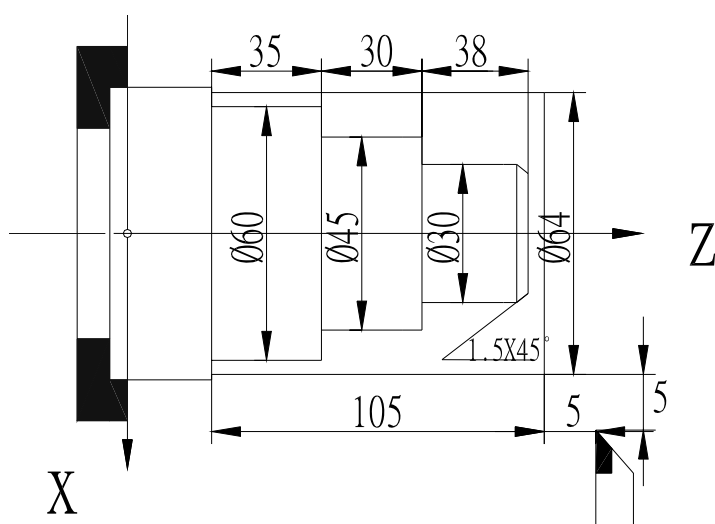

Fig. 33 Outer cylindrical surface machining
**Example 1** : See Fig. 33. Rod:  $\Phi 64 \times 105$  mm. No. 1 tool is used for roughing, No. 2 for finishing. (G90 inner/outer cylindrical surface turning cycle) .